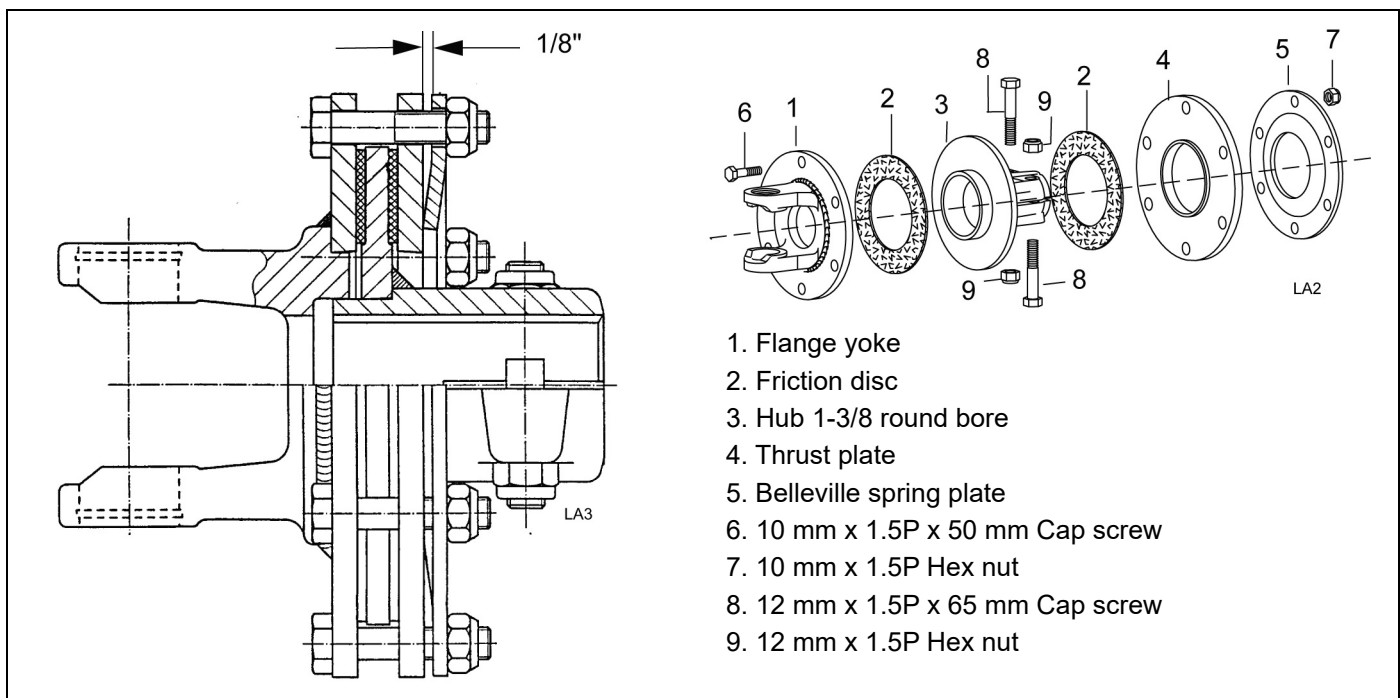

Figure 8. Slip Clutch Assembly
SLIP CLUTCH ADJUSTMENT (FIGURE 8)
3. Loosen six 10 mm cap screws (6) to remove all tension from Belleville spring plate (5).
4. Hold clutch hub (3) solid and turn shaft to make sure clutch slips.
5. If clutch does not slip freely, disassemble and clean the thrust plate faces (4), flange yoke (1), and clutch hub (3).
7. Tighten Belleville spring (5) until it is against the thrust plate (4) of the clutch, and then back off each of the six nuts by 2 full revolutions. The gap between Belleville spring and thrust plate should be 1/8" as shown in Figure 8.
8. If a clutch continues to slip when the spring is compressed to 1/8" gap, check friction discs (2) for excessive wear. Discs are 1/8" when new. Replace discs after 1/16" wear. Minimum disc thickness is 1/16".